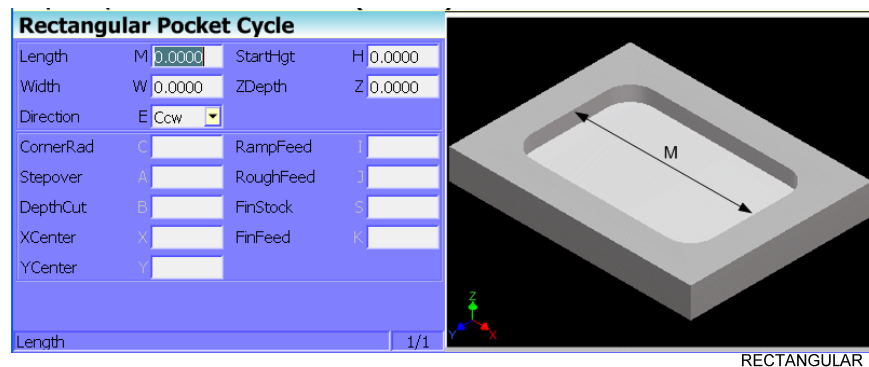

Figure 4-17, Rectangular Pocket Cycle Graphic Menu
2. Highlight **Rectangular** and press **ENTER** to display the Rectangular Pocket Cycle Graphic Menu. Refer to **Figure 4-17**.